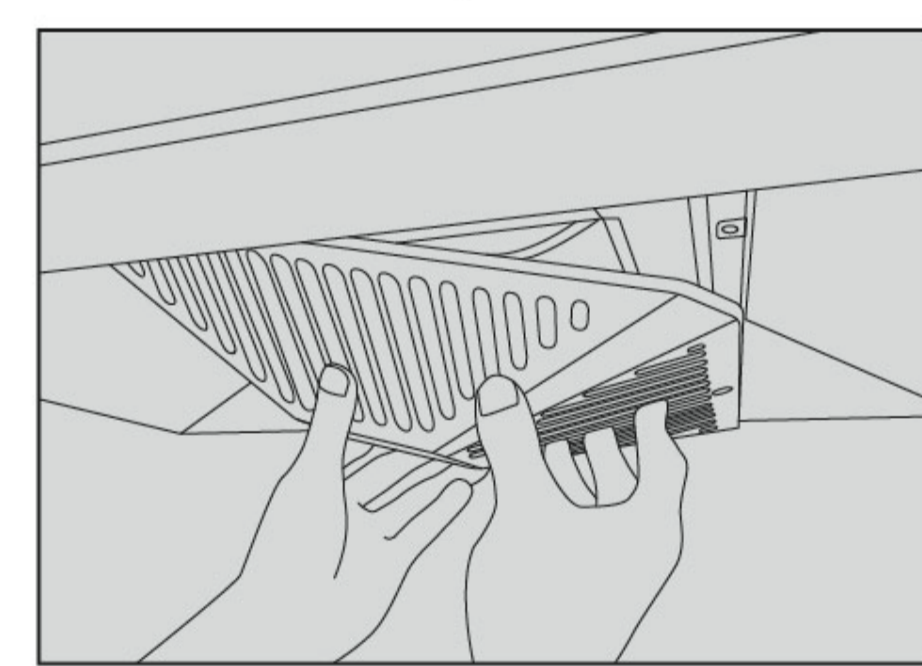

Fig. 4
4. After cleaning, install the inner cover into the outer cover of the air intake. Plug two hooks (at the left side of the air intake cover assembly) into the corresponding openings on the panel (Fig. 4). Turn the air intake cover assembly upward and fix it with screws at the right side.
- e. After installation of filter component , install the inner cover into the outer cover of the air intake . Plug two hooks (at the left side of the air intake cover assembly ) into the corresponding openings on the panel (Fig.4). Turn the air intake cover assembly upward and fix it with screws at the right side.